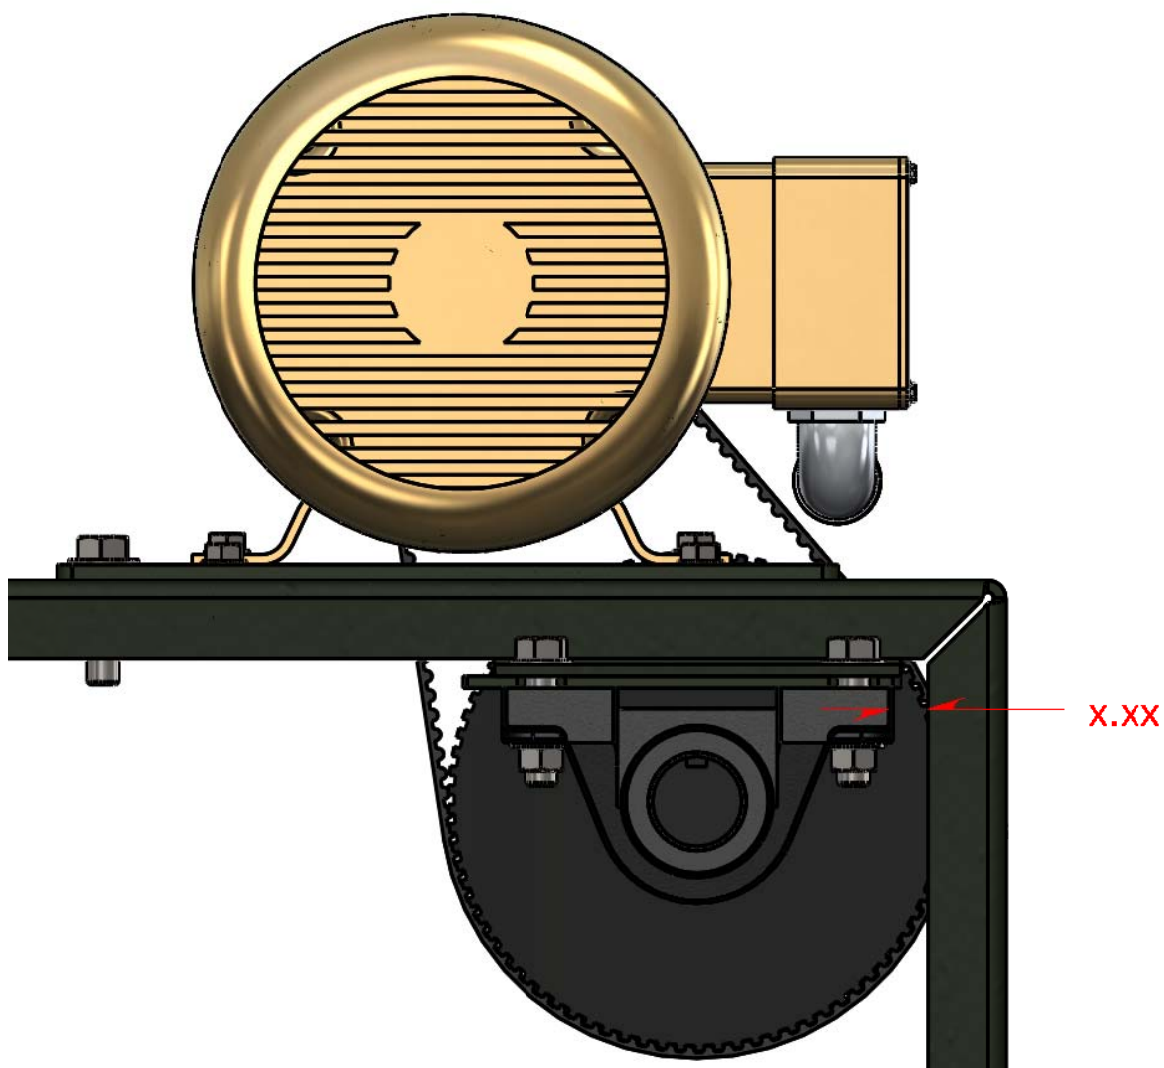

Figure 5: Pillow block to frame locating dimensions
1. Slide the pillow block bearings onto the fan shaft such that the bearing collars are facing each other, and install the shaft, bearings, and shims into the fan housing using the (4) 1/2"-13 x 2" bolts, (8) 1/2" washers, and (4) 1/2"-13 nuts. Only finger tighten at this time.
2. Carefully square and relocate the bearings using the pillow block to frame dimensions recorded prior to disassembly, see Figure 5, and torque the bolts to 57 ft-lbs.
7. Finger tighten the (3) 1/4" bolts in the fan blade bushing.
11. Install (3) 1/4" bolts into the bushing finger tight.